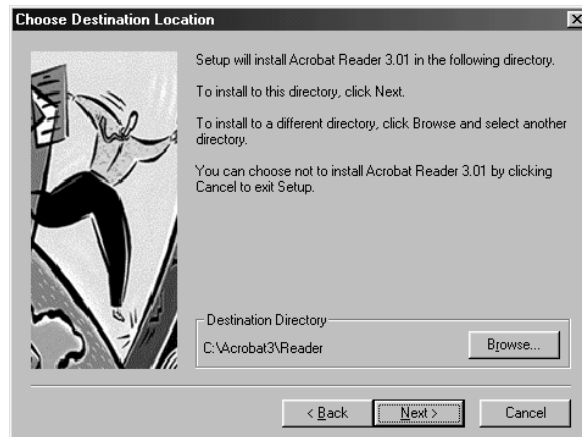

Figure 8: Determining a directory
4. Select the directory for the program installation and click on 'Next' to continue (Figure 8). The files will now be copied. Figure 9 will then pop up.